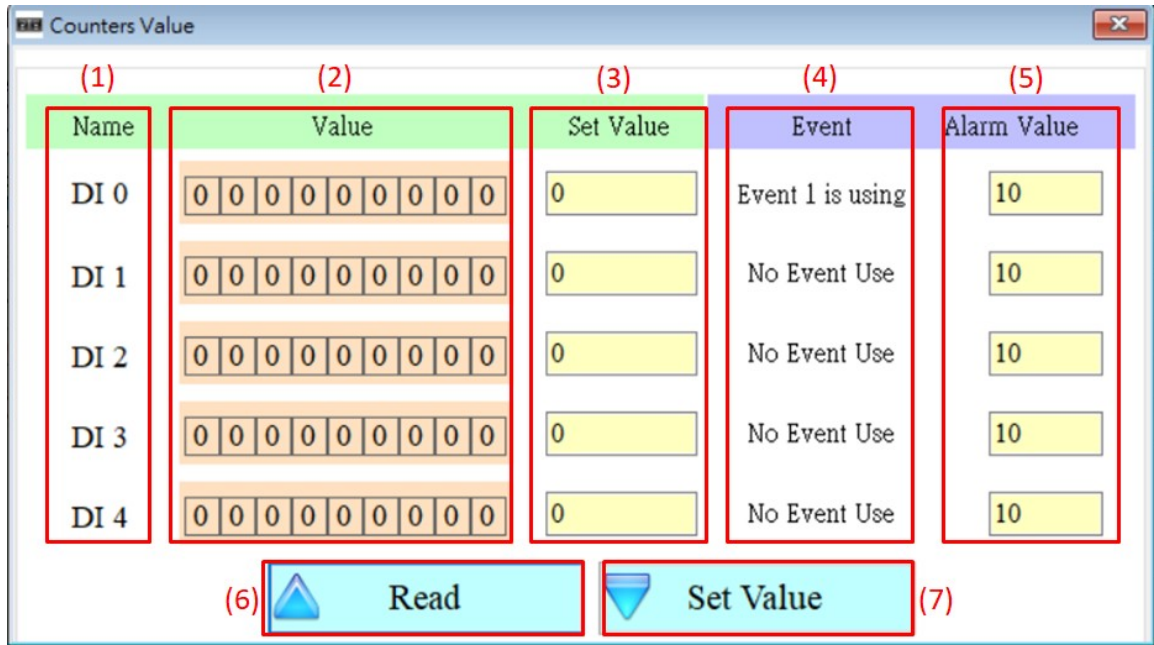

Figure 6.1.5
- D. Set the counter parameters, as shown in Figure 6.1.5
- (1) Counter name, Counter0~Counter4 corresponds to DI0~DO4.
- (2) Counter current count value.
- (3) Set the current value of the counter.
- (4) Counter usage status.
- (5) The value of the counter trigger alarm, which must be greater than the value of Set Value by more than 10.
- (6) Read the current status of Device Counters.
- (7) Write Counters to Device.